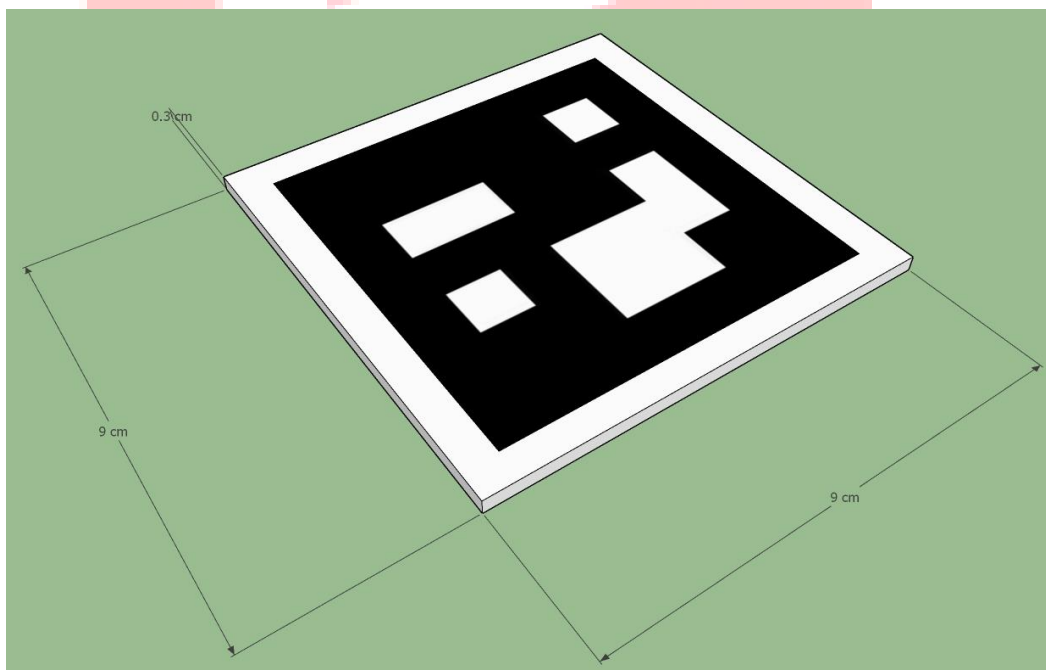

Figure 6: ArUco marker on sunboard
- Paste the ArUco marker on the sunboard using glue or double sided tape. The ArUco marker must be pasted on sunboard as shown in Figure 6.